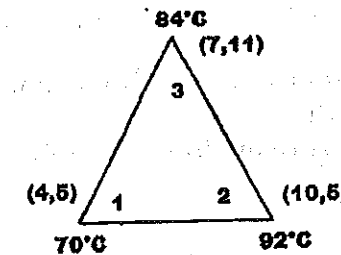

Fig. 14(a)
14. a) i) The nodal co-ordinates for an axi-symmetric triangular element are given below. $r_1=10\text{mm}, r_2=40\text{mm}, r_3=40\text{mm}, z_1=10\text{mm}, z_2=10\text{mm}, z_3=50\text{mm}$. Evaluate strain displacement matrix. (10)
ii) Nodal values of the triangular element is shown in Fig. 14 (a). Evaluate element shape functions and calculate the value of temperature at a point whose coordinates are given(5,7). (6)